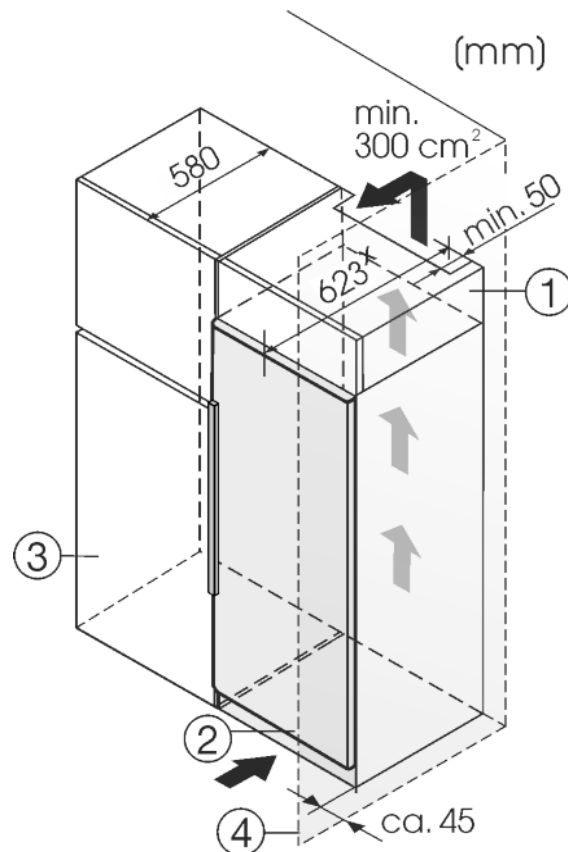

Fig. 8
- (1) Top cupboard
- (2) Appliance
- (3) Kitchen cabinet
- (4) Wall
The appliance can be built into kitchen units. A top cupboard Fig. 8 (2) can be added above the appliance in order to bring the appliance Fig. 8 (1) up to the height of the fitted kitchen units.
If the appliance is installed with the hinges next to a wall Fig. 8 (4), the distance between appliance and wall has to be at least 40 mm. This corresponds to the projection of the handle when the door is open.